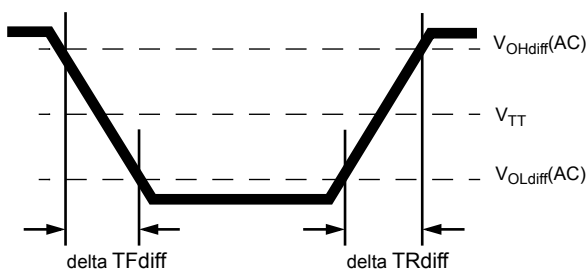

Figure 18. Differential Output Slew Rate Definition
With the reference load for timing measurements, output slew rate for falling and rising edges is defined and measured between VOLdiff(AC) and VOHdiff(AC) for differential signals as shown in Table 28 and Figure 18.